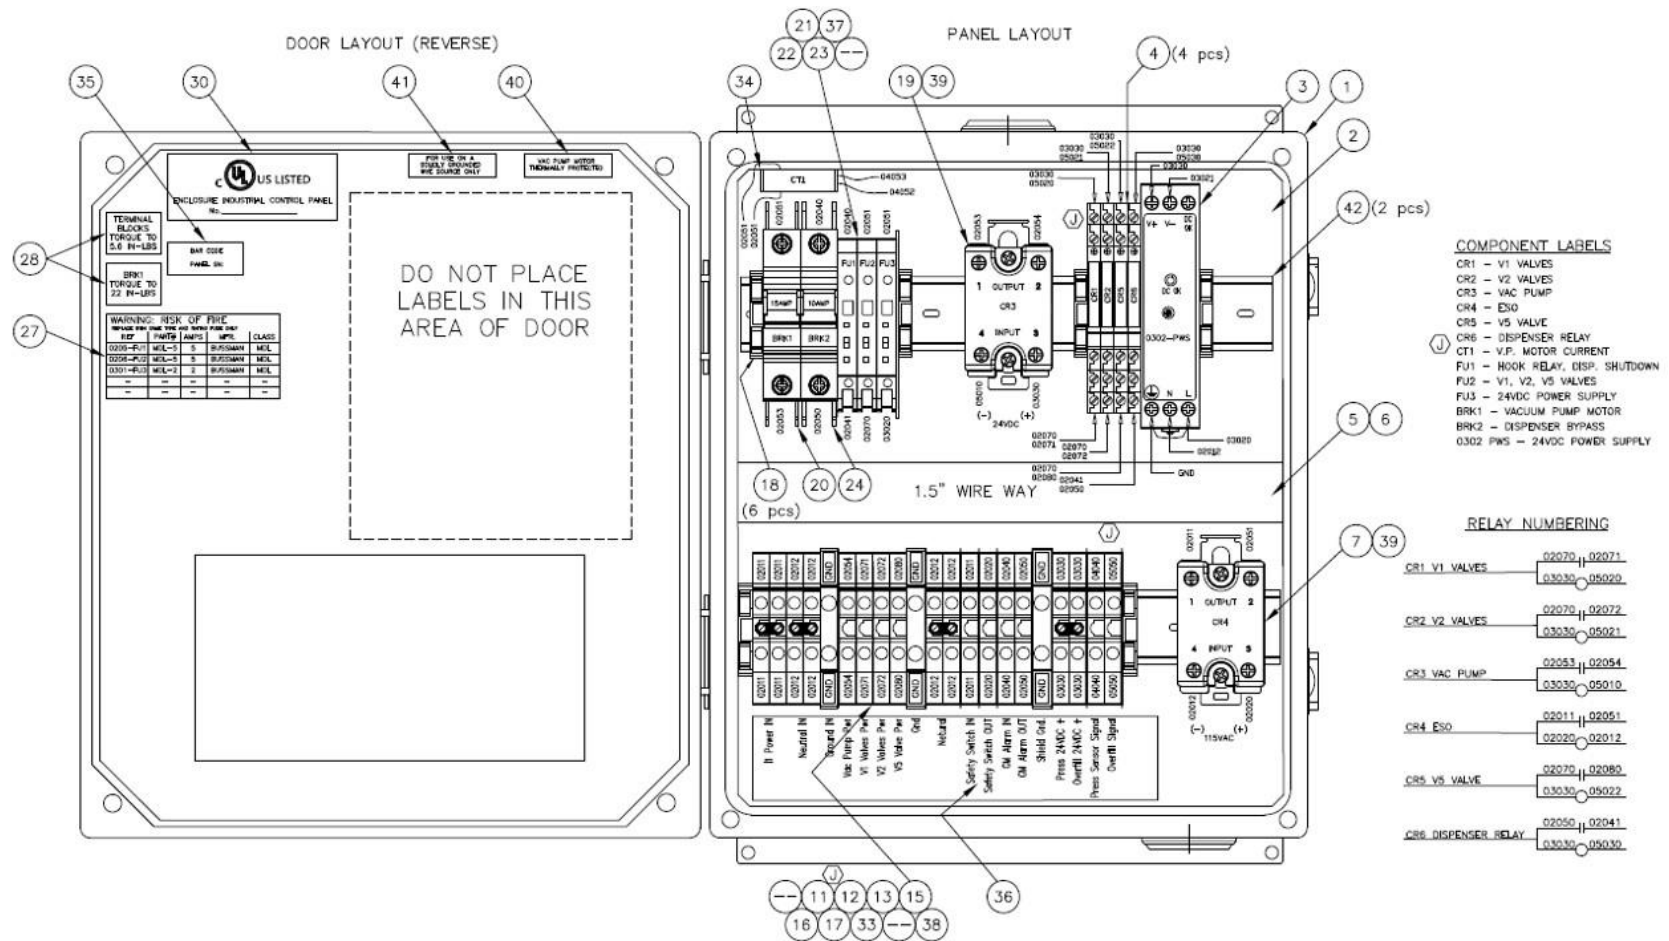

Figure 8-21: VST Control Panel Electrical Components
1.	<p>Check to see if the Vacuum Pump breaker (BRK1) in the Control Panel has tripped. See Figure 8-21.</p> <ul style="list-style-type: none"> a) Enter the Maintenance screen using the code 878 to disable the GREEN MACHINE. b) Open the Control Panel front door c) Check the breaker BRK1 to see if it tripped: <ul style="list-style-type: none"> ● If the breaker lever is up and the window is RED, the breaker has not tripped. ● If the breaker lever is down and the window is GREEN, the breaker has tripped. d) If the breaker has not tripped, go to Step 2. e) If the Vacuum Pump breaker has tripped, move the lever up to reset the breaker. f) Push the Clear Motor Alarm button so the alarm resets. See Figure 8-17. g) Push the Home button to go back to the Main Screen and the alarm will be cleared. h) The GREEN MACHINE is now in a Normal Operating Mode and will operate if the UST pressure is above 0.2 IWC. i) NOTE: IF THE VACUUM PUMP BREAKER CONTINUES TO TRIP, GO TO STEP 2.
- b) If a valve is not energized, the screwdriver will not be drawn to the retainer clip. **See Figure 8-21** for fuse location.